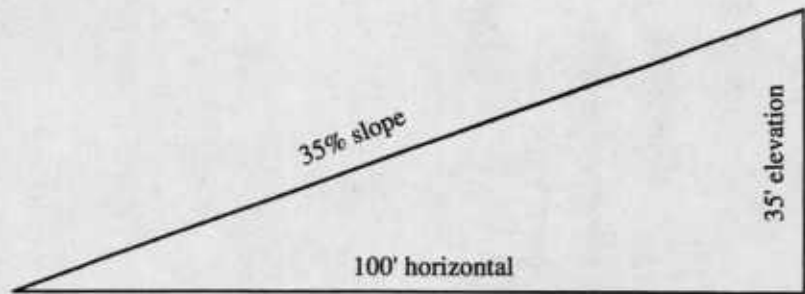

Figure 1.—Computing the percentage of ground slope.
• **Topography limitations.** One of the greatest determinants of logging feasibility is the ground slope. The ground slope can be classed roughly as "between 0 and 35 percent," "between 35 and 70 percent," and "more than 70 percent" in steepness. Percent slope is a measure of the steepness based on the amount of rise per given unit of horizontal distance. On a 35-percent slope, the slope increase is 35 feet of elevation for every 100 feet of horizontal distance (Figure 1). This ratio is multiplied by 100 percent to obtain a percent slope estimate.